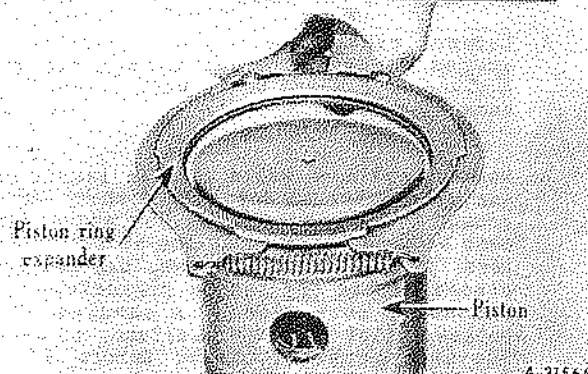

Fig. 42 - Installing piston ring using a piston ring installing tool
3. When installing piston rings in piston grooves, be careful not to distort rings. If possible use a suitable piston ring expander tool (Fig. 42). Also check new piston rings in piston ring grooves for clearance between ring and ring lands. The correct ring clearance is shown in specifications.